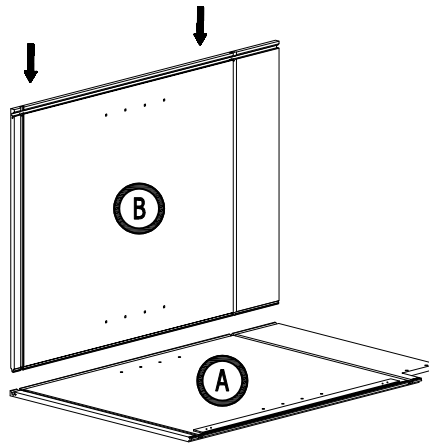

Figure 2
2. Install the Back Panel 1: Insert the back panel-1 (C) into the groove of the left side panel (A) and click it into place. (Figure 2)